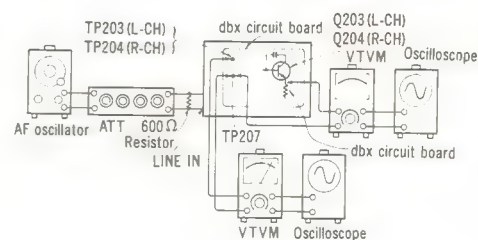

Fig. 14
1. Make the connections as shown in fig. 14, and apply 100 Hz — 27 dB signal from LINE IN, and set the noise reduction selector to dbx tape position.